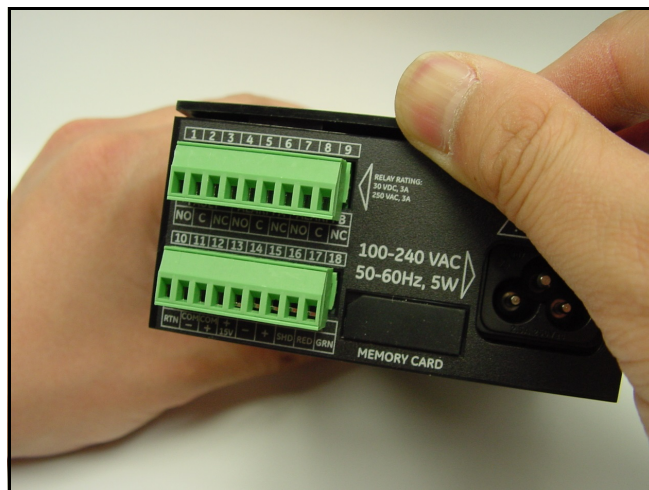
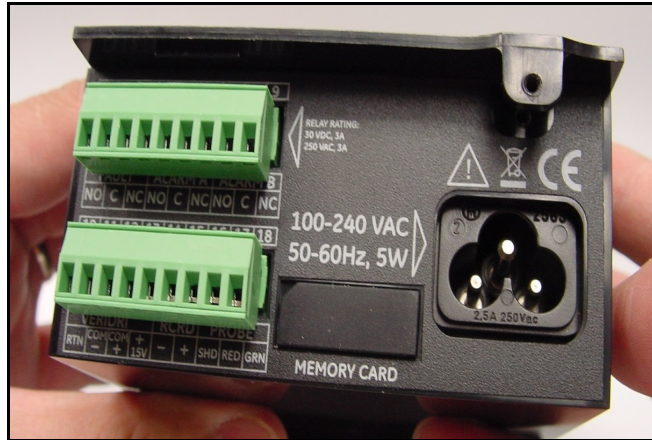
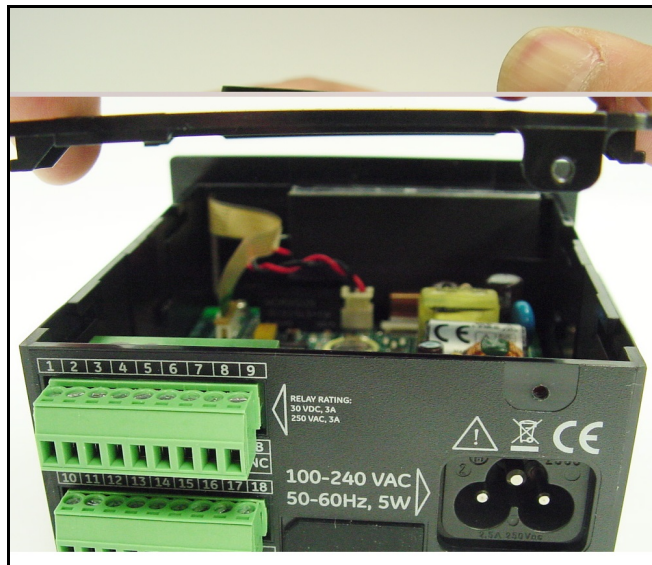

Figure 5: Lifting the Back Edge of the Cover
Figure 6: Sliding the Cover Back
Figure 7: Lifting the Cover
3. Lift the back edge of the cover (see Figure 5), slide the cover back (see Figure 6), and lift it from the enclosure (see Figure 7).